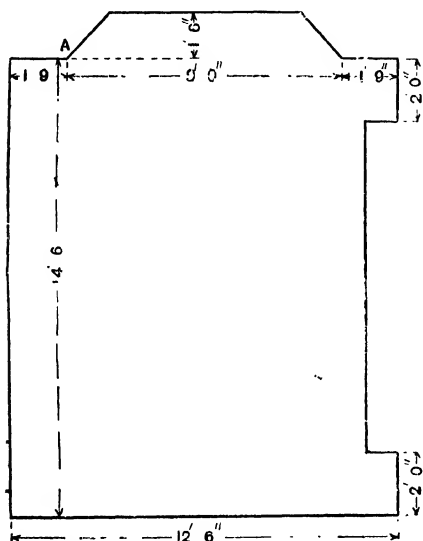

Fig. 353.—Linoleum-planner's Plan of Room.
**Planning Linoleum.**—In planning linoleum for the floor of a room, the main point to be considered is to have as few joinings as possible, with due regard to economy of material. Fig. 353 shows the plan of a room which will serve as a guide; the measurements given are of course imaginary, but resemble those usually required for linoleum planning. Linoleum is manufactured in a variety of widths, but the three that are most used are 6 ft., 9 ft., and 12 ft. Perhaps the first-mentioned
is made in a larger variety of designs and qualities than any other width. A 6-ft. wide linoleum is called 84 in the trade, the sizes generally being given in quarter-yards. Assume that one has to be laid, the room (Fig. 353) measuring 12 ft. 6 in. across, and 14 ft. 6 in. lengthways, which, together with the depth of the bay, makes 16 ft. in all. In this case it will be most advantageous to lay the linoleum lengthways, two widths accounting for 12 ft., while 6 in. will be the space left to be filled in the two recesses by
the bay, and cut in a straight line downwards till the corner A (Fig. 353) is reached. This will allow the linoleum to fall into place, but it will still lap over along the skirting board where the bay narrows. Take the knife in one hand, using the other to press the linoleum down, and cut straight along; the linoleum should now drop easily into place. It is better to have  $\frac{1}{8}$ -in. space between the skirting board and the linoleum than to fit it too tightly, for after being laid for a while it will spread slightly, especially when not thoroughly seasoned. If it bulges subsequently, the linoleum must be eased all round, and the tacks or brads taken out, till it lies flat on the floor. Put in as few brads as possible, for if well fitted the lino-